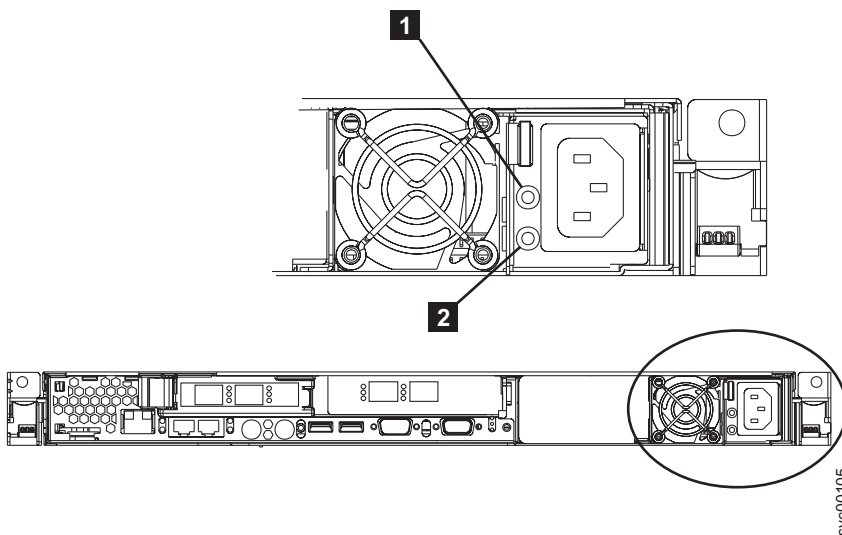

Figure 165. SAN Volume Controller 2145-8F2 or SAN Volume Controller 2145-8F4 ac and dc power LEDs
5. Make sure that the power-supply fan starts and the ac power LED **1** and dc power LED **2** (shown in Figure 165) on the power supply are lit, indicating that the power supply is operating correctly.